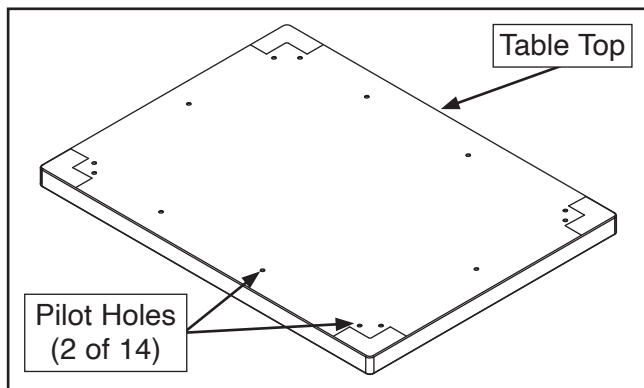

Figure 7. Pilot holes drilled into table top.
7. On each tabletop, use stand assembly as a template to mark center of each fastener hole, then remove stand assembly, and drill (14) pilot holes into each table top (see **Figure 7**).